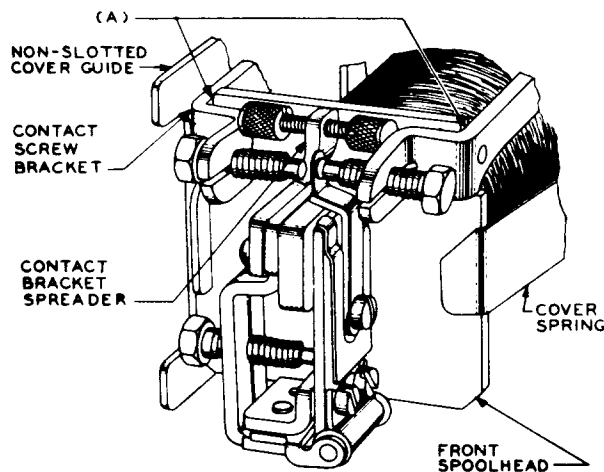

Fig. 4 - Relay Equipped with Contact Bracket Spreader, Nonslotted Cover Guide and Cover Spring.
- (b) Relays Equipped With Contact Bracket Spreader: Fig. 4(A) - The clearance between each contact screw bracket and the front spoolhead shall be